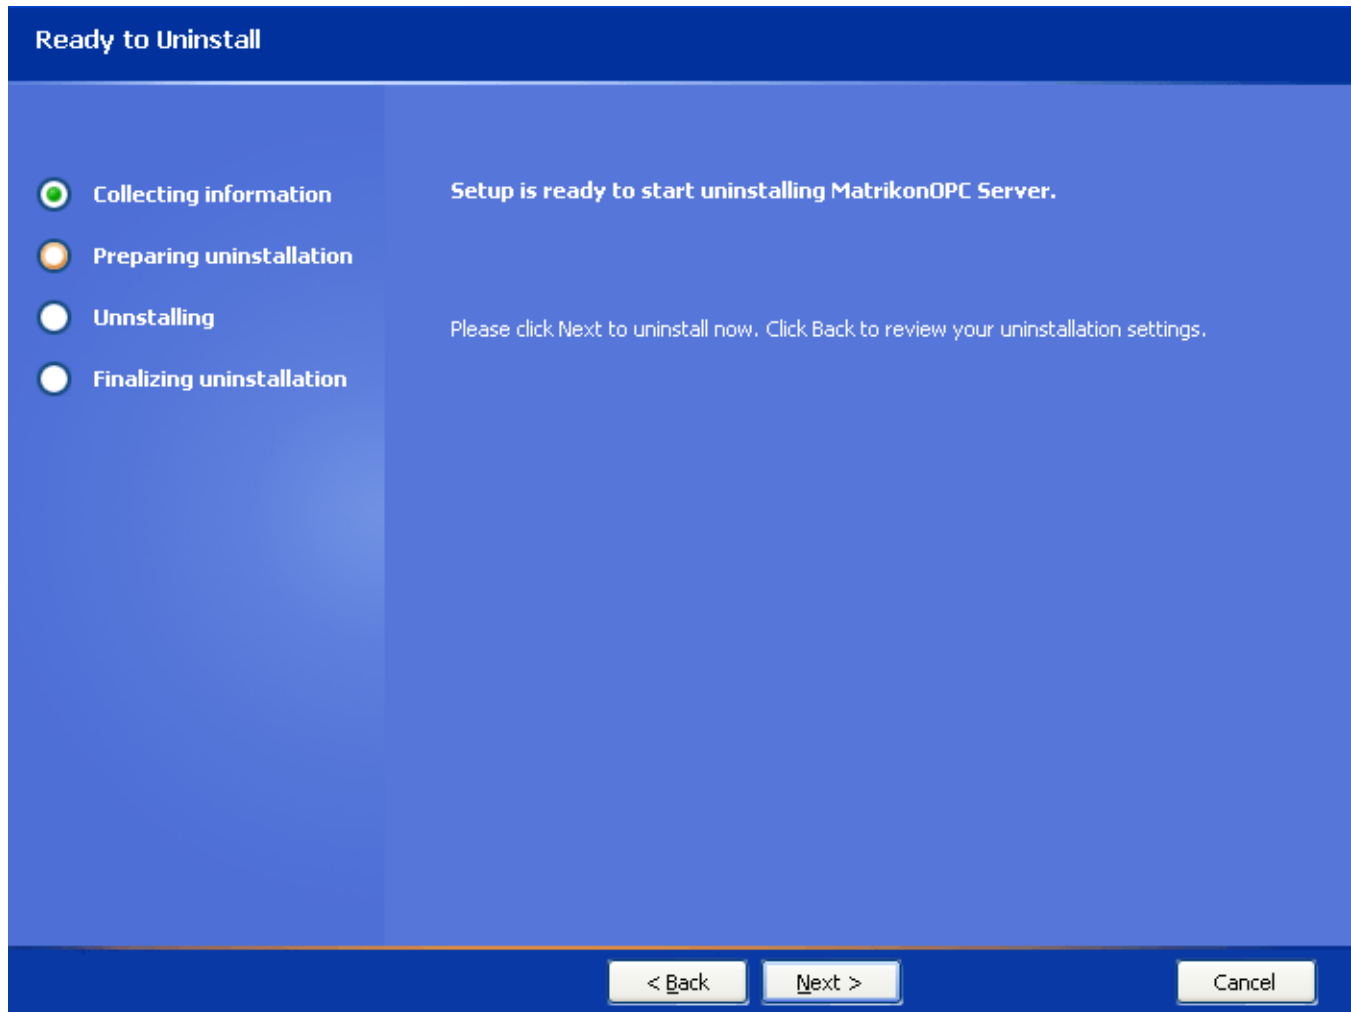

Figure 80 - Ready to Uninstall Screen
8. Click on the **Next** button. The **Ready to Uninstall** screen (Figure 80) is displayed.